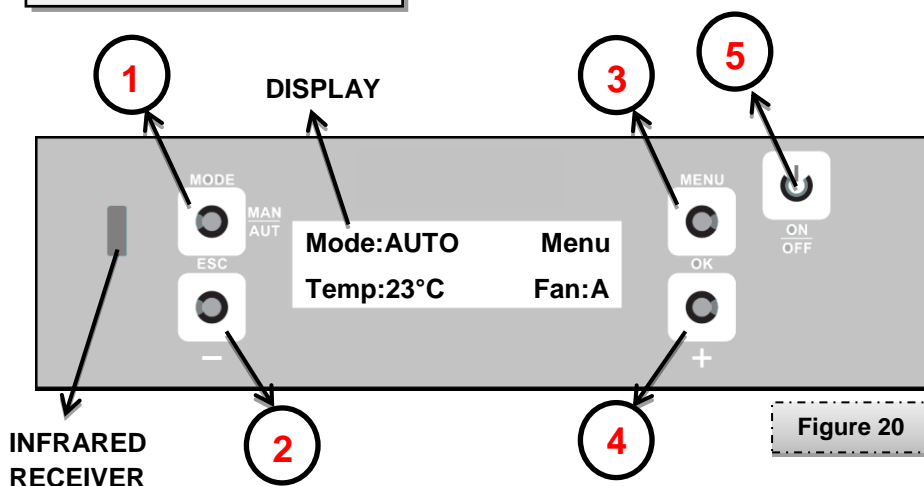

Figure 20
NOTE: All explanations hereinafter will refer to the buttons on this *Figure 20*.
The remote control allows you to regulate the heating power, speed of warm air ventilator and stove activation and deactivation. When used, the remote control must ALWAYS be directed toward the infrared receiver on the control panel (figure 20).
The stove is **turned ON** by pressing the **ON/OFF** key on the control panel **for the duration of 2 seconds** (key 5 – figure 20) or by pressing **key 1 (ON)** on the remote control. The control panel will produce an audio signal and the screen will display the **IGNITION** option.